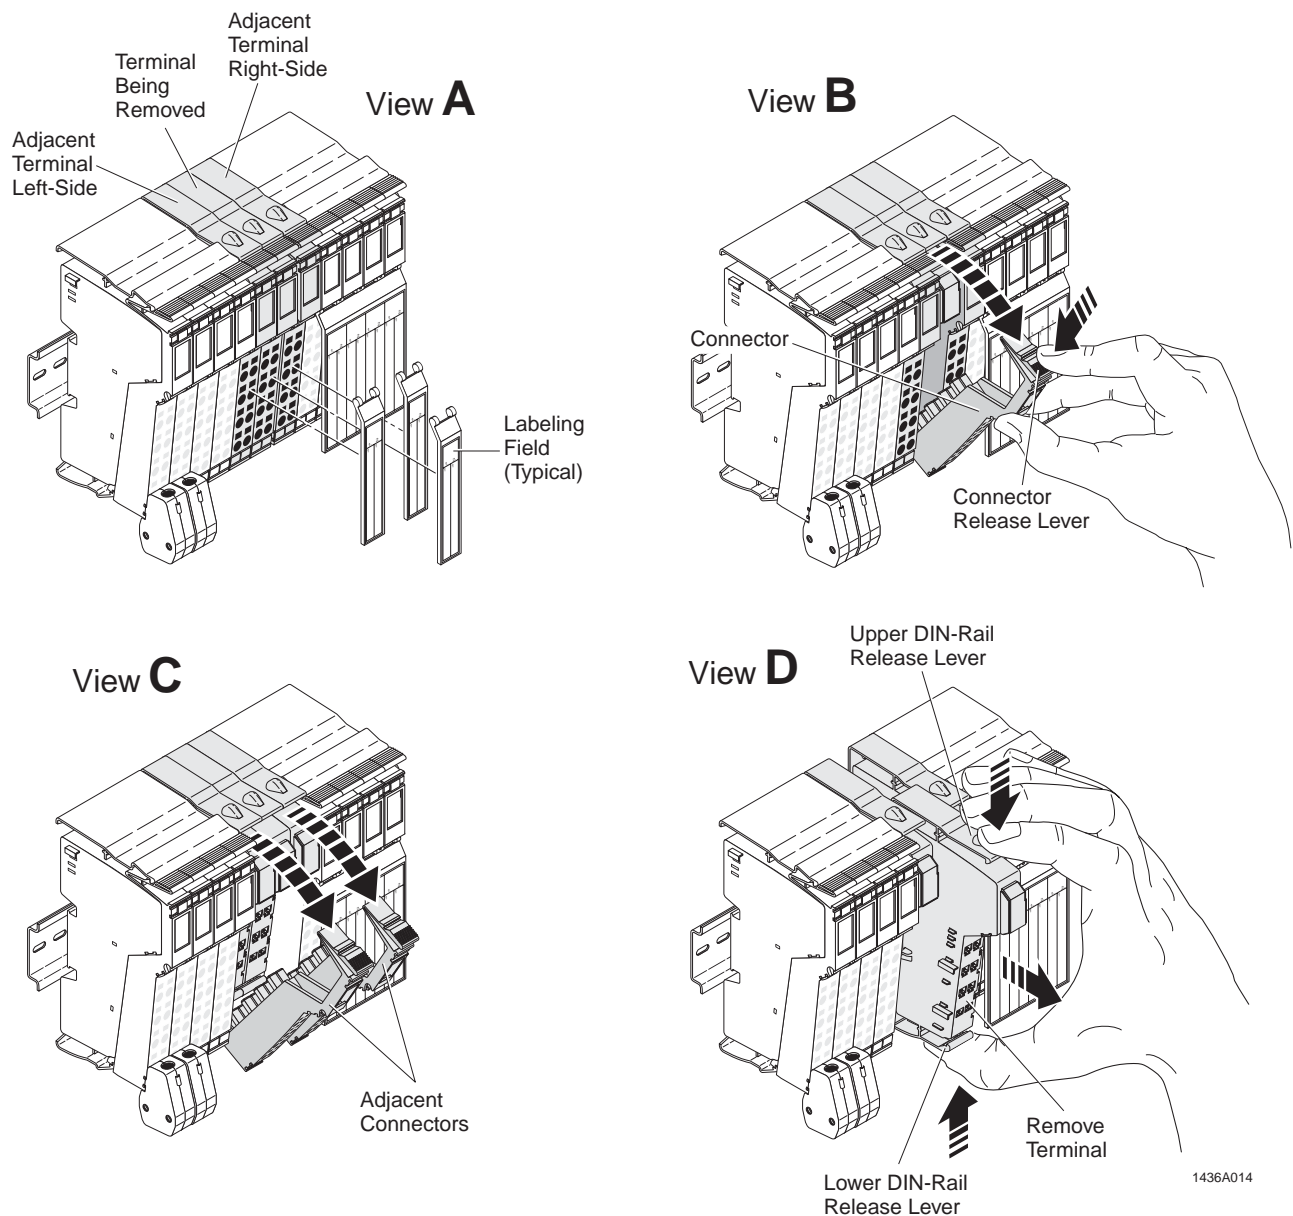

Figure 2-7. Replacing a Terminal
When removing a module, proceed as described in the following steps. Figure 2-7 shows the removal of a 2-slot module. However, all modules can be removed in the same manner as that described in this procedure.
1. Remove labeling fields, if installed, from the connector of the module(s) being removed and from the connectors of the neighboring modules. See Figure 2-7, View A.
2. Remove the connector(s) of the module being replaced by pressing down on the connector release lever, pivoting the connector downward, then lifting it out of the electronics base. See Figure 2-7, View B
3. Remove the connector(s) from both the left-side and right-side adjacent modules. See Figure 2-7, View C.
4. Remove the module's electronics base by pressing inward on both the upper and lower DIN-Rail release levers and pulling straight out. See Figure 2-7, View D.